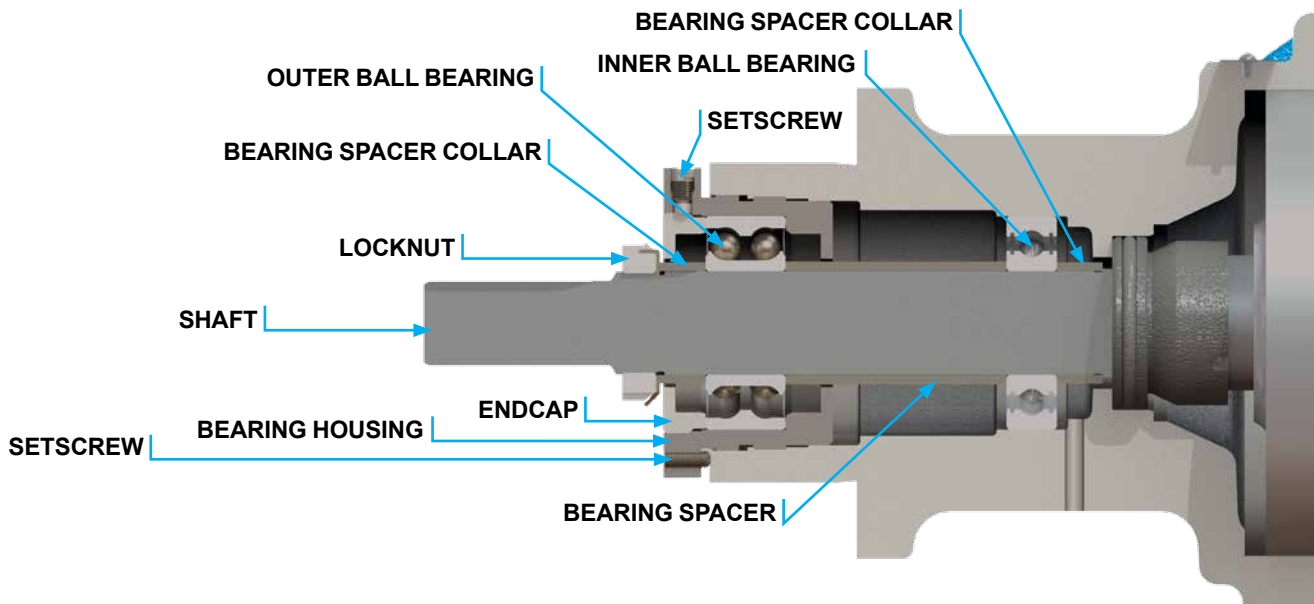

FIGURE 6 - THRUST BEARING ASSEMBLY KE, KKE, LQE, LSE SIZES
6. Insert a brass bar or piece of hardwood in the port opening and between the rotor teeth to keep the shaft from turning. Turn the locknut counterclockwise and remove locknut. See **Figure 6 or 7**, page 6.
7. Bend up tang of lockwasher and with a spanner wrench remove locknut and lockwasher from shaft. See **Figure 6 or 7**, page 6.
8. Loosen the two setscrews in the face of the bearing housing and turn the thrust bearing assembly counterclockwise and remove from casing. See **Figure 6 or 7**, page 6.
12. **KE, KKE, LQE, LSE:** Remove the inner single row ball bearing and bearing spacer collar from the casing. See **Figure 6**.
11. **KE, KKE, LQE, LSE:** Install the bearing spacer collar over the shaft into the bore. See **Figure 6**. The Q and QS do not contain a bearing spacer collar.
See Figures 6 and 7, page 6.